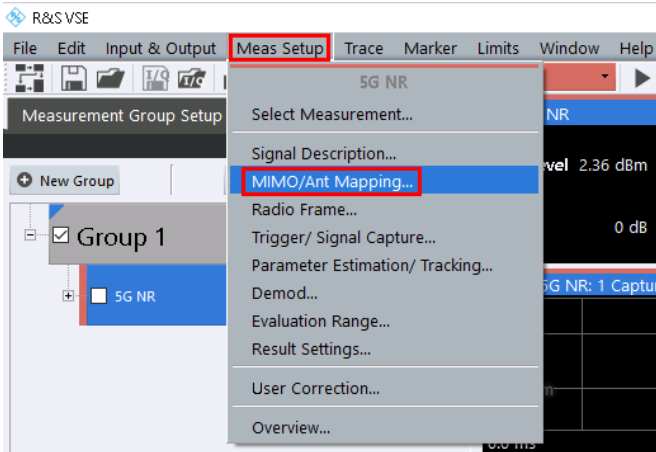

Fig. 3-12: Enter MIMO/Antenna Mapping to enable MIMO scenario
1. In VSE menu bar, goto Meas Setup > MIMO/Ant Mapping. See Fig. 3-12.